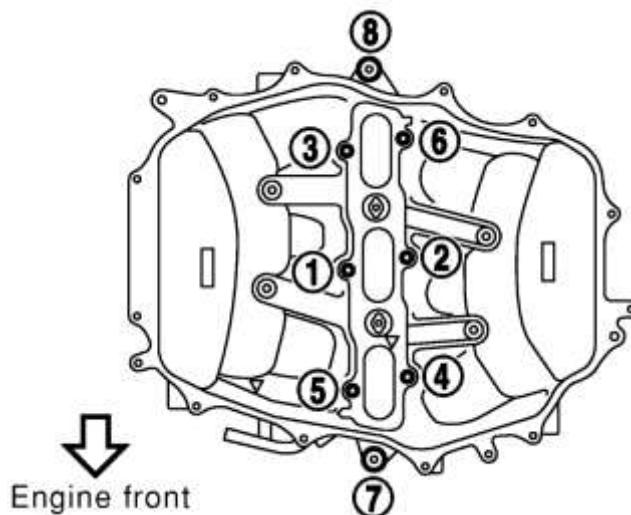

Figure 26
13. Loosen the Lower Plenum Mounting Bolts in reverse order as shown below. *Figure 26.*